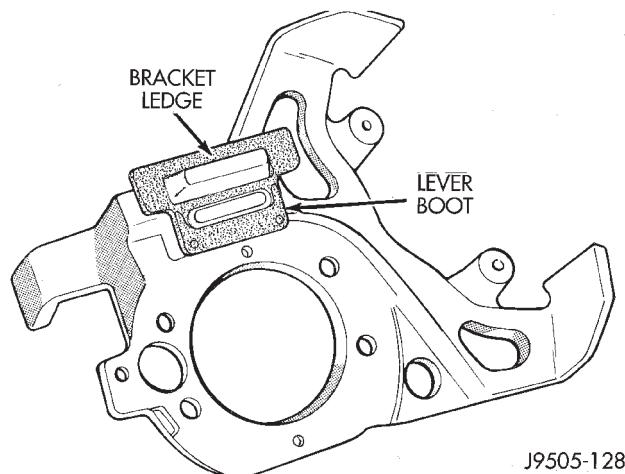

Fig. 56 Lever Boot Installation
(3) Install new boot on caliper bracket. Metal retainer part of boot fits over ledge on caliper as shown (Fig. 56). Rubber part of boot extends through rear opening in bracket. Allow adhesive on boot and bracket to set up for a minute or two before proceeding.